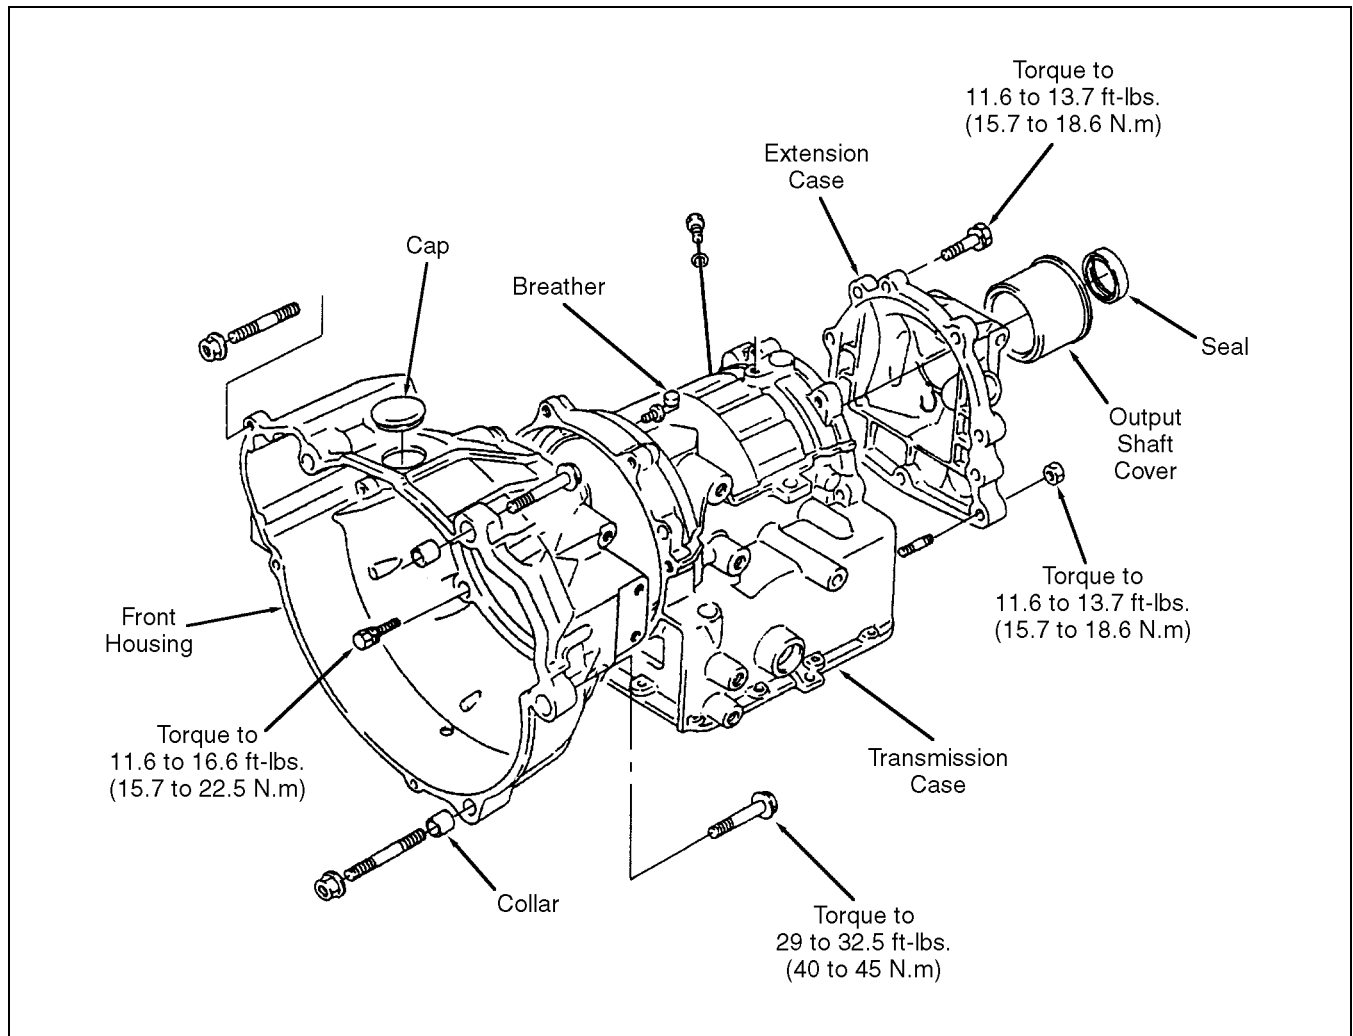

Figure 4J-44. Rear Extension and Front Housing Installation
1. Prior to installing the torque converter, check the end play of the input shaft as shown in Figure 4J-45.